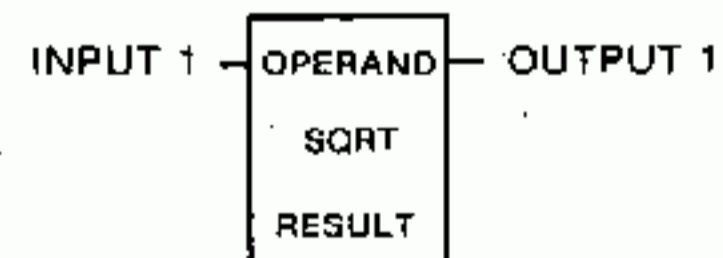

Fig. 4.39 SQRT General Form
(1) Form
- Fig. 4.39 shows the form of square root (SQRT).